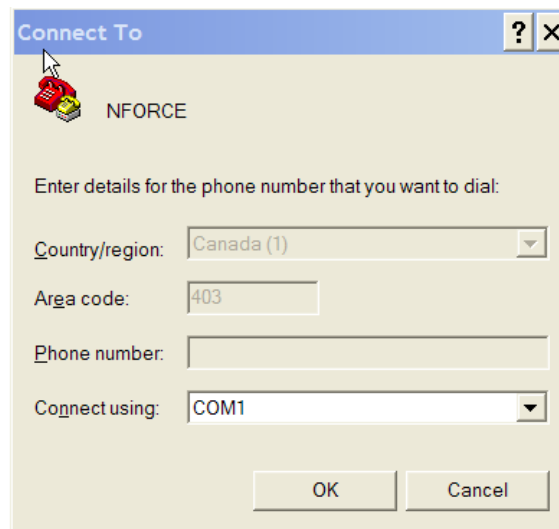

Figure 6-3 – HyperTerminal Communications Settings
- Hyper Terminal must now be configured with the correct communications settings to talk to the *NFORCE*. Hyper Terminal should now be showing the *Connect To* window (Figure 6-3). Using the drop down box provided for *Connect Using* select the COM port you have connected the *NFORCE* cable to. This is commonly COM1. Click OK when ready.